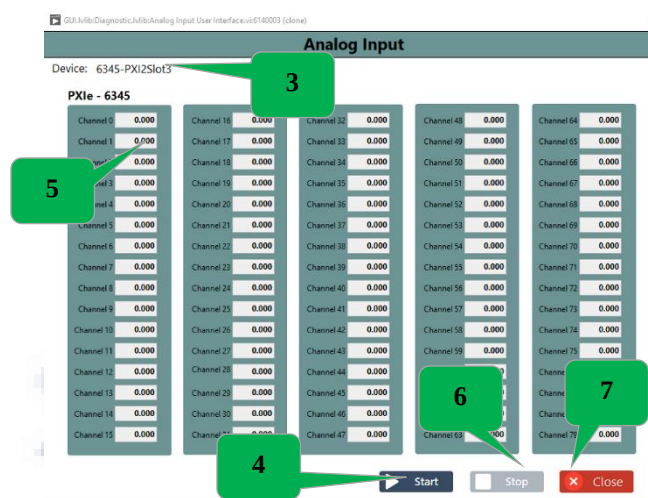

Figure 51: Analog Input
- 2) Click the Analog Input Diagnostic Button and Refer Fig 51.